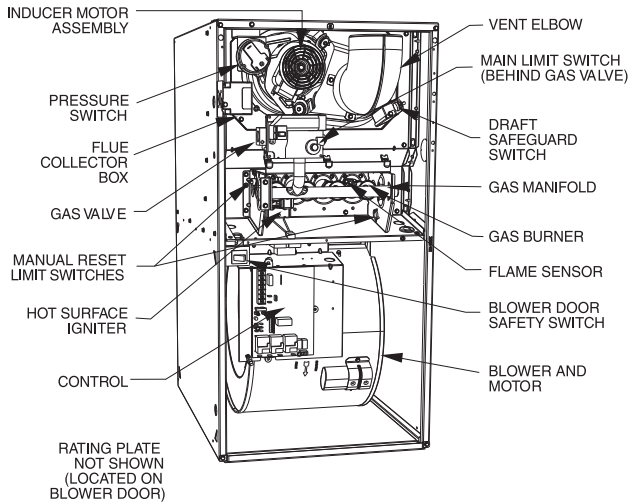

Fig. 18 - Representative Furnace Drawing
1. Disconnect the gas pipe from gas valve and remove pipe from the furnace casing. See Fig. 18.